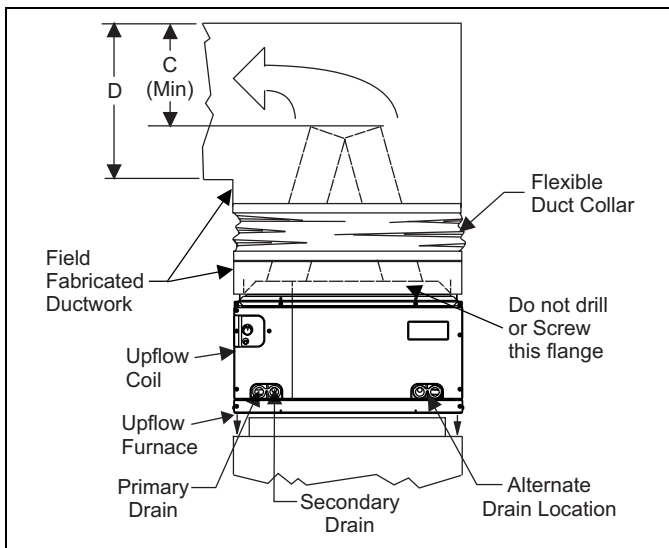

FIGURE 6: PC Series Upflow Coil Installation
1. Position the coil casing over the furnace opening as shown in Figure 6.
Do not drill any holes or drive any screws into the front duct flange on the coil in order to prevent damaging coil tubing. See Figure 6
Dimension "C" should be at least 2/3 of dimension "D". See Figure 6.